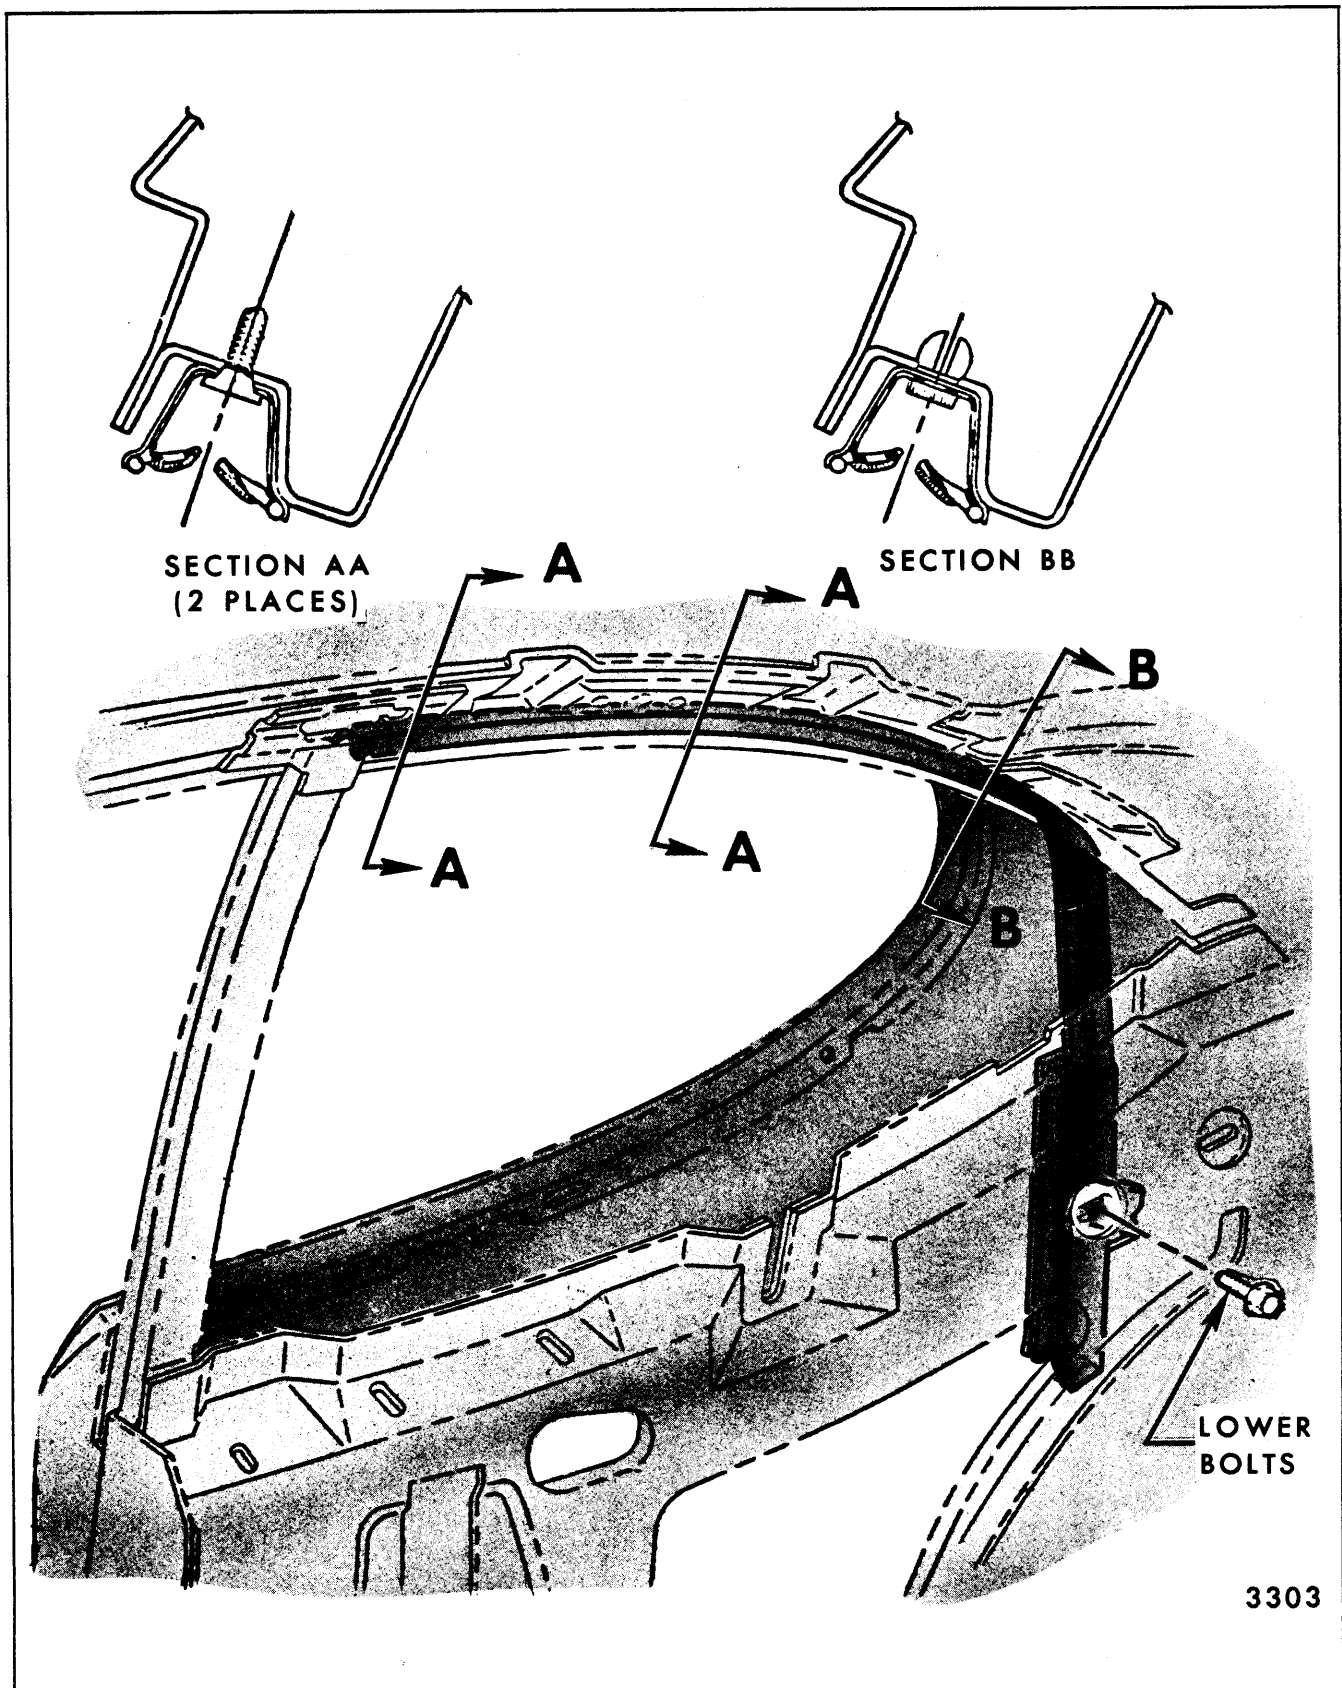

Fig. 7-8—Rear Quarter Window Glass Run Channels - Typical of All Closed Styles
2. Remove run channel to inner panel attaching bolt (Fig. 7-8).